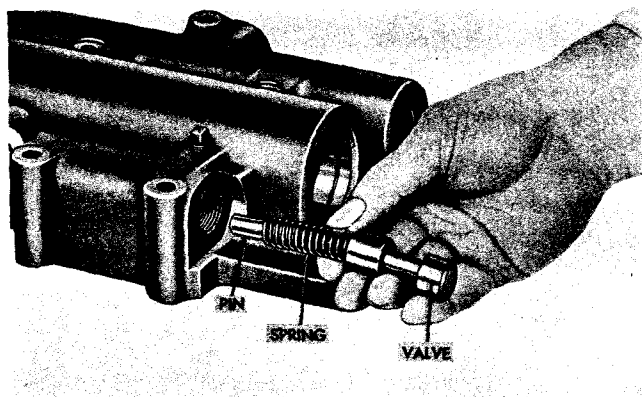

Fig. 6-1. Installing clutch cutoff valve components—early model
c. Assembly (item 5, A, foldout 15)
(1) Install pin 21 into spring 22. Install the spring and pin into the recessed end of valve 20.
(2) Install the assembled valve, spring and pin, spring first, into the valve body (fig. 6-1).
(3) Install seal ring 17 and cup 16 onto plug 18. Install plug 18, cup-end first, into retainer plug 15.